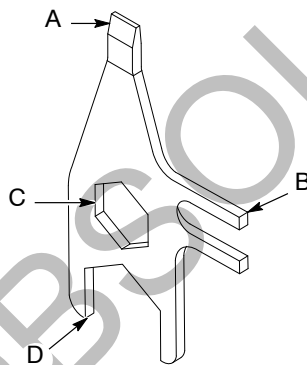

Figure 7-1 Combination Tool
- See Figure 7-1: Combination tool provided with your spray gun